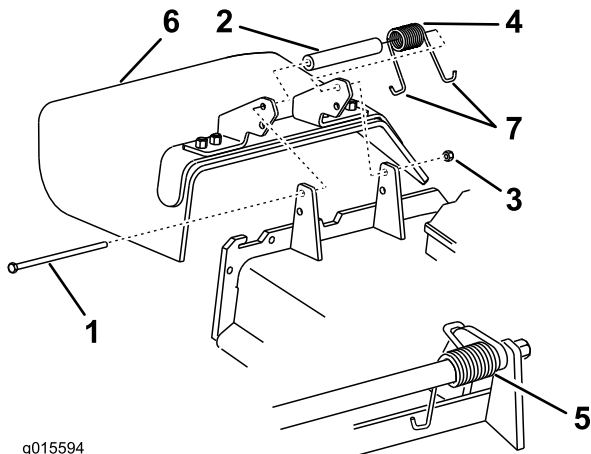

Figure 61
1. Remove the locknut, bolt, spring and spacer holding the deflector to the pivot brackets (Figure 61). Remove the damaged or worn grass deflector.
Note: Make sure one **J** end of the spring is installed behind the deck edge before installing the bolt as shown in Figure 61.
3. Install the bolt and nut. Place one **J** hook end of the spring around the grass deflector (Figure 61).